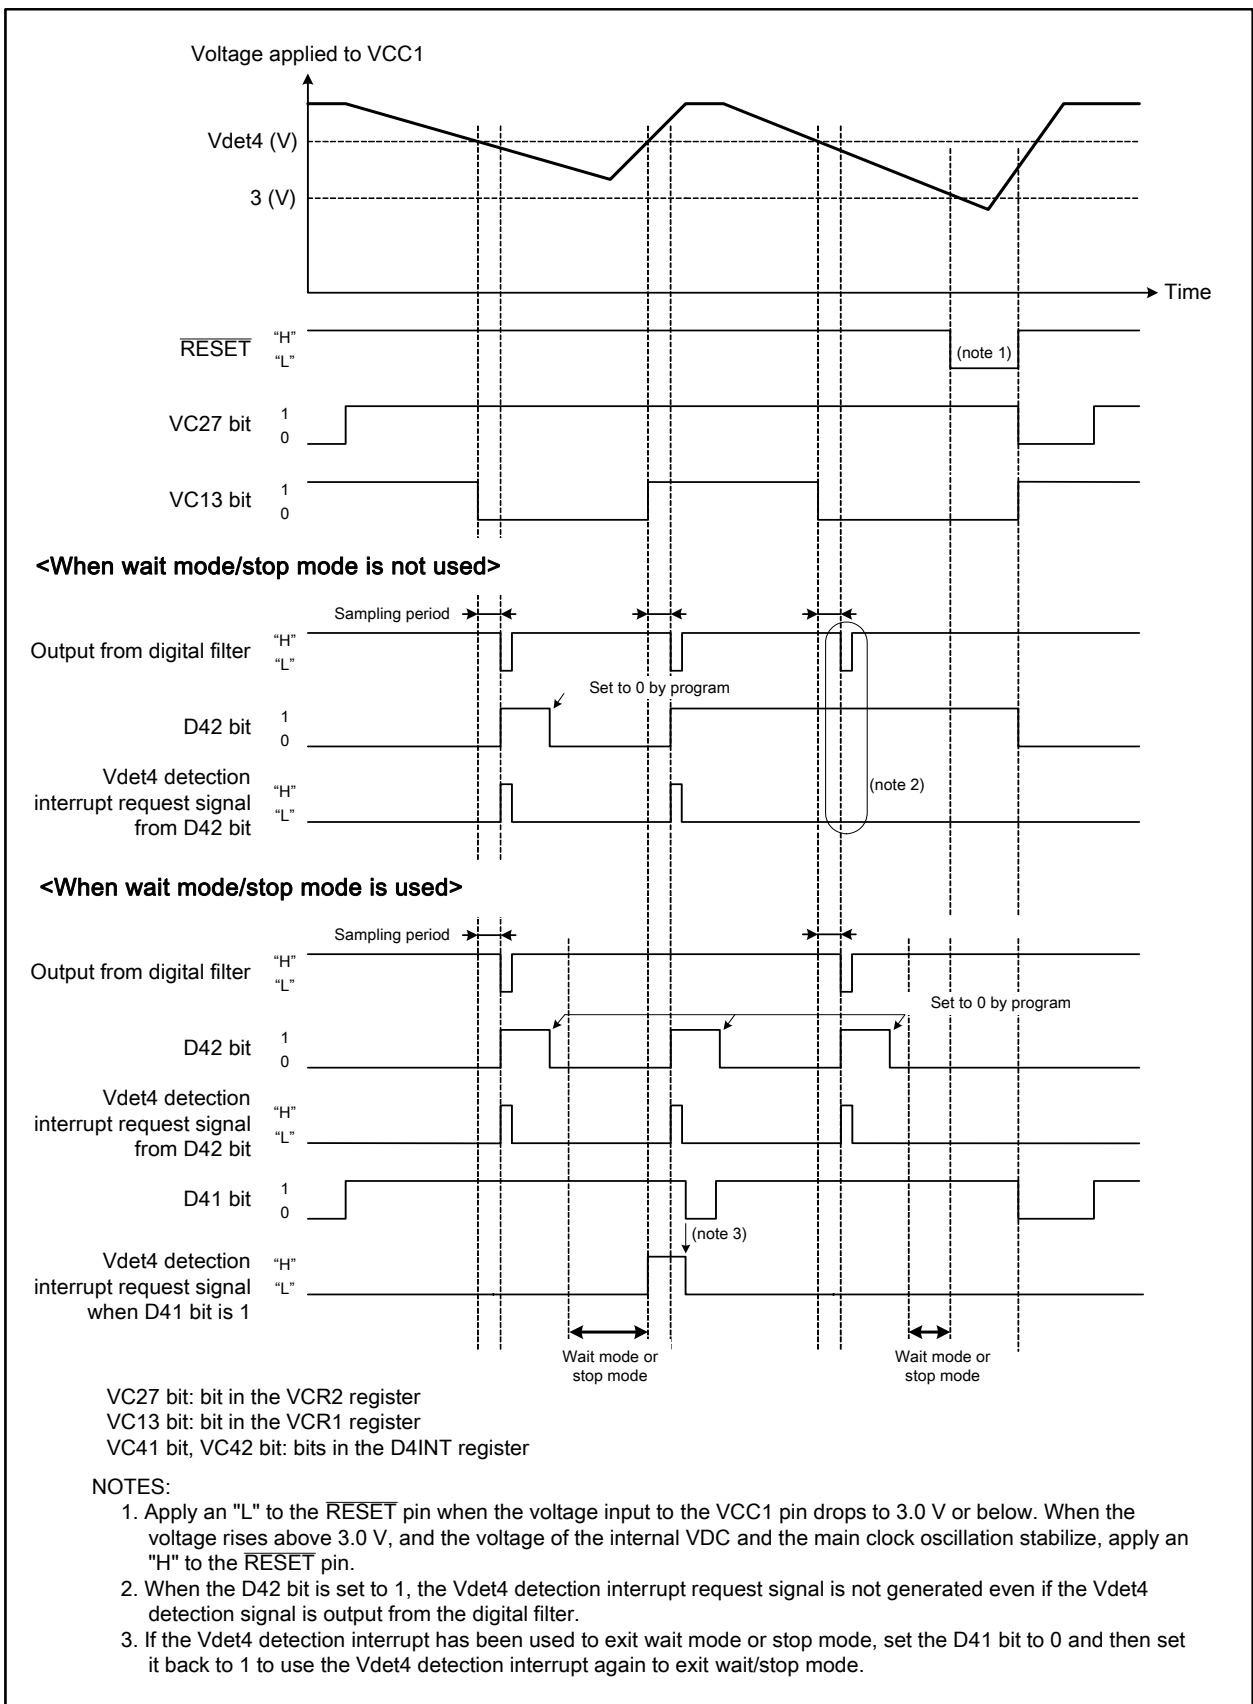

Figure 6.6 Vdet4 Detection Function Operation Example
Table 6.1 shows conditions to generate Vdet4 detection interrupt request. Figure 6.6 shows a Vdet4 detection function operation example.
- An interrupt request is generated when the sampling period elapses after the value of the bit is changed. See **Figure 6.6 Vdet4 Detection Function Operation Example** for details.